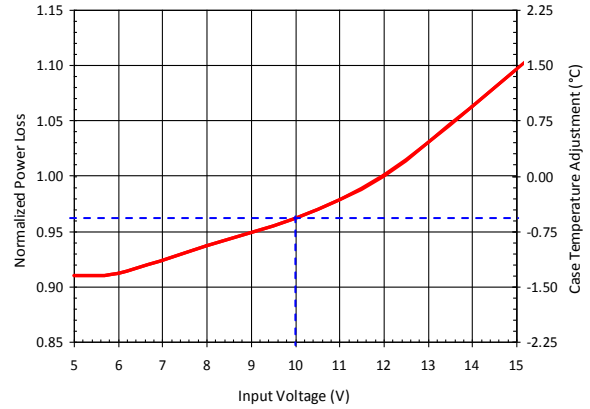
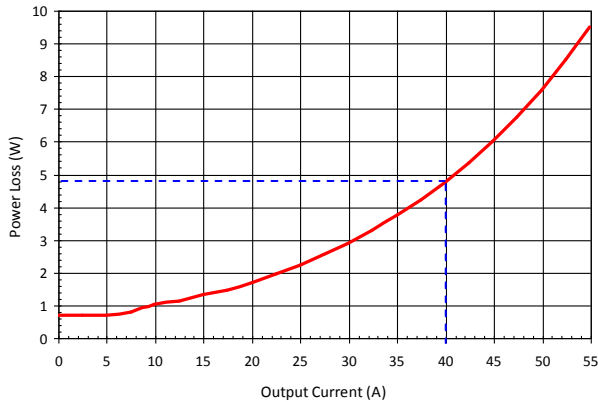
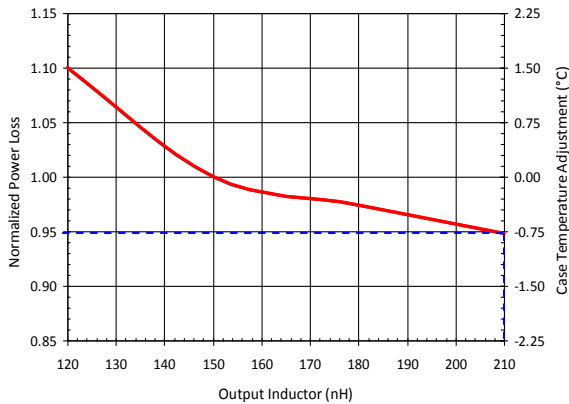

Figure 10: Normalized Power Loss vs. Input Voltage
Figure 8: Typical IR3575 Power Loss
Figure 14: Power Loss vs. Output Inductor
The measured single-phase IR3575 power loss under the same conditions is provided in Figure 8.
If any of the application condition, i.e. input voltage, output voltage, switching frequency, VCC MOSFET driver voltage or inductance, is different from those of Figure 8, a set of normalized power loss curves should be used. Obtain the normalizing factors from Figure 10 to Figure 14 for the new application conditions; multiply these factors by the power loss obtained from Figure 8 for the required load current.
- 1) Determine the power loss at 40A under the default test conditions of  $V_{IN}=12V$ ,  $V_{OUT}=1.2V$ ,  $f_{SW} = 400kHz$ ,  $L=150nH$ ,  $VCC=7V$ ,  $T_{AMBIENT} = 25^{\circ}C$ , no heat sink, and no air flow. It is 4.8W from Figure 8.
- 2) Determine the input voltage normalizing factor with  $V_{IN}=10V$ , which is 0.96 based on the dashed lines in Figure 10.
- 6) Determine the inductance normalizing factor with  $L=210nH$ , which is 0.95 based on the dashed lines in Figure 14.
If any of the application condition, i.e. input voltage, output voltage, switching frequency, VCC MOSFET driver voltage, or inductance is different from those of Figure 9, a set of IR3575 case temperature adjustment curves should be used. Obtain the temperature deltas from Figure 10 to Figure 14 for the new application conditions; sum these deltas and then subtract from the IR3575 case temperature obtained from Figure 9 for the required load current.
- 13) Determine the case temperature with L=210nH, which is -0.8° based on the dashed lines in Figure 14.